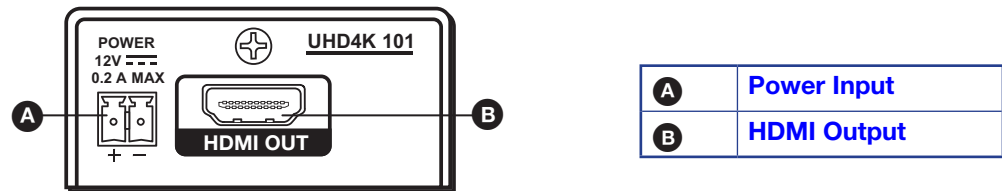

Figure 3. UHD4K 101 Rear Panel
- B HDMI Output** (see figure 3 on page 5)— One female HDMI Type A connector used for HDMI output. The output supports a pixel clock up to 300 Mhz. The cable length connecting to the display device must be a maximum of 15 feet (5 m).